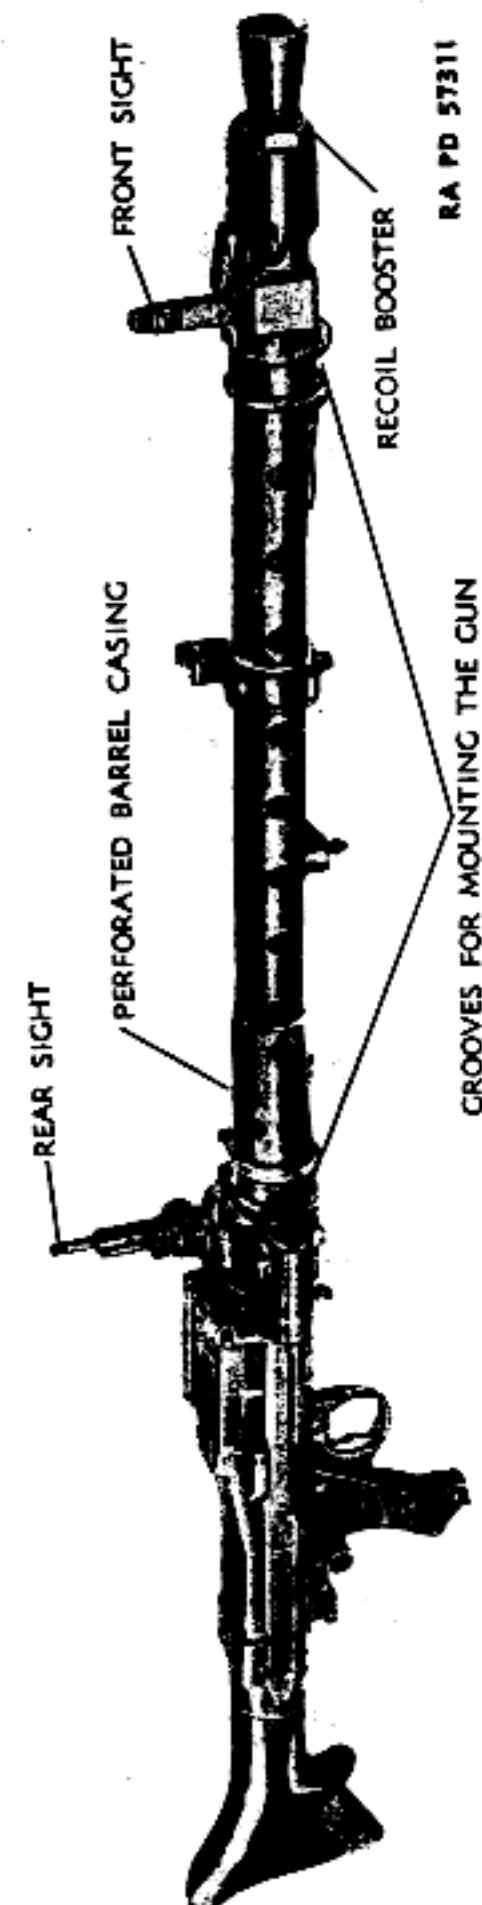
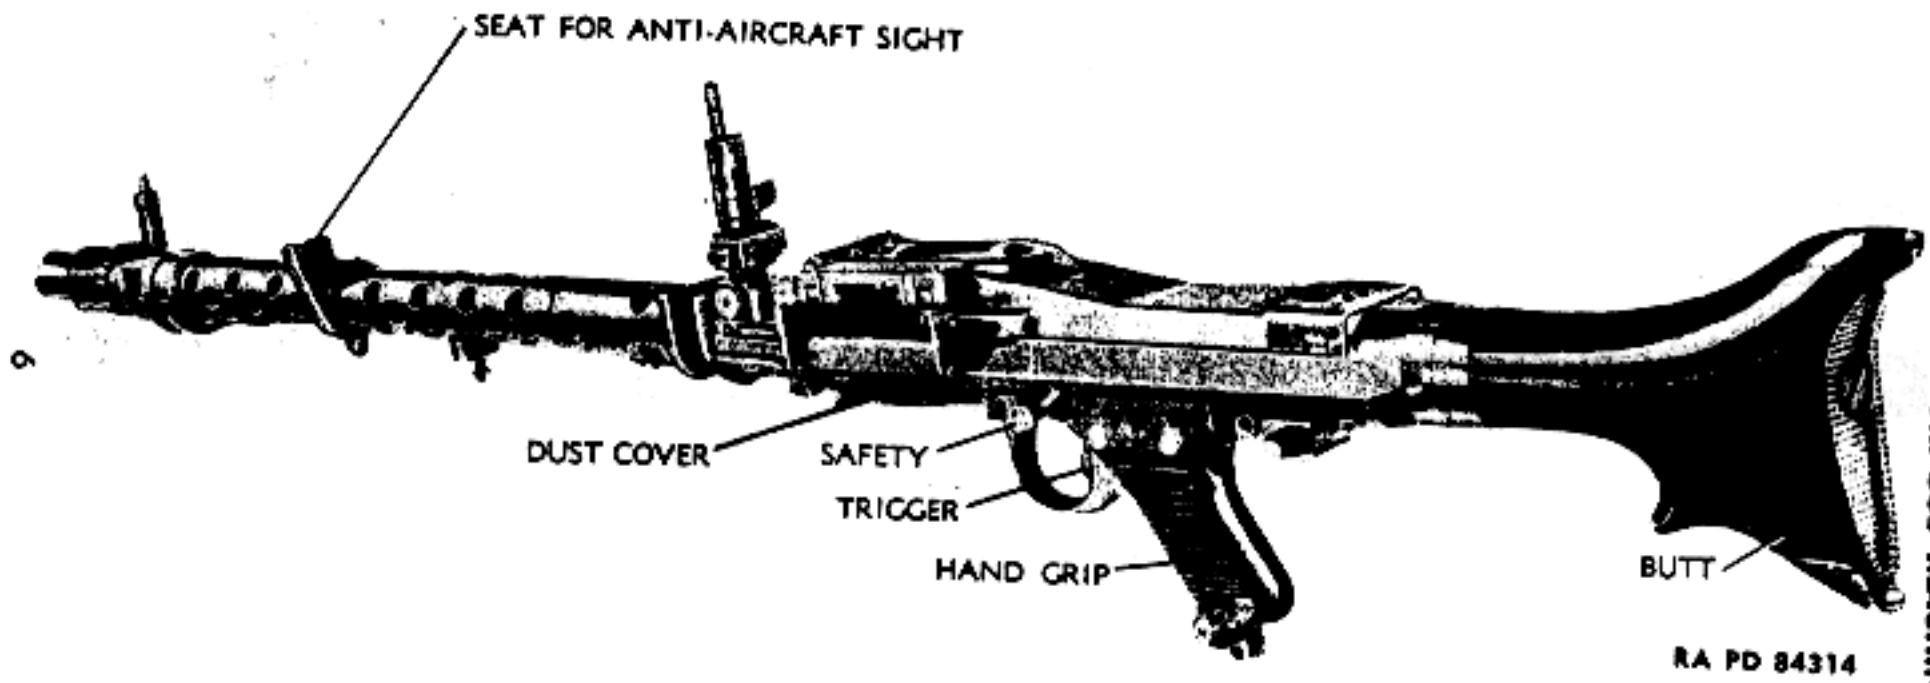
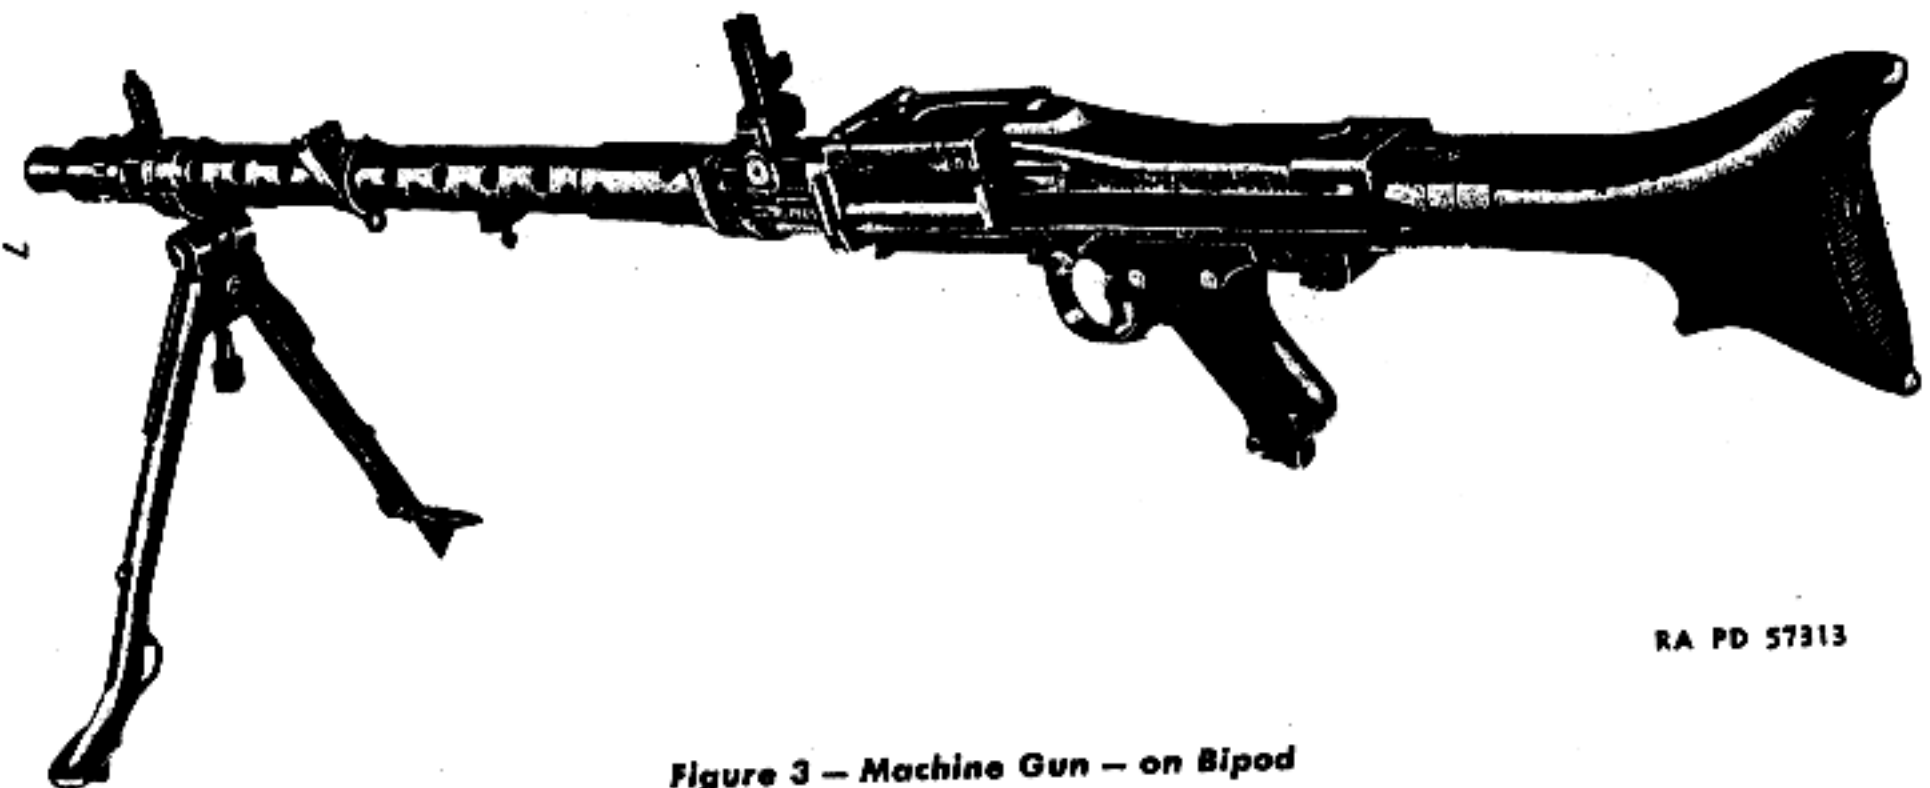
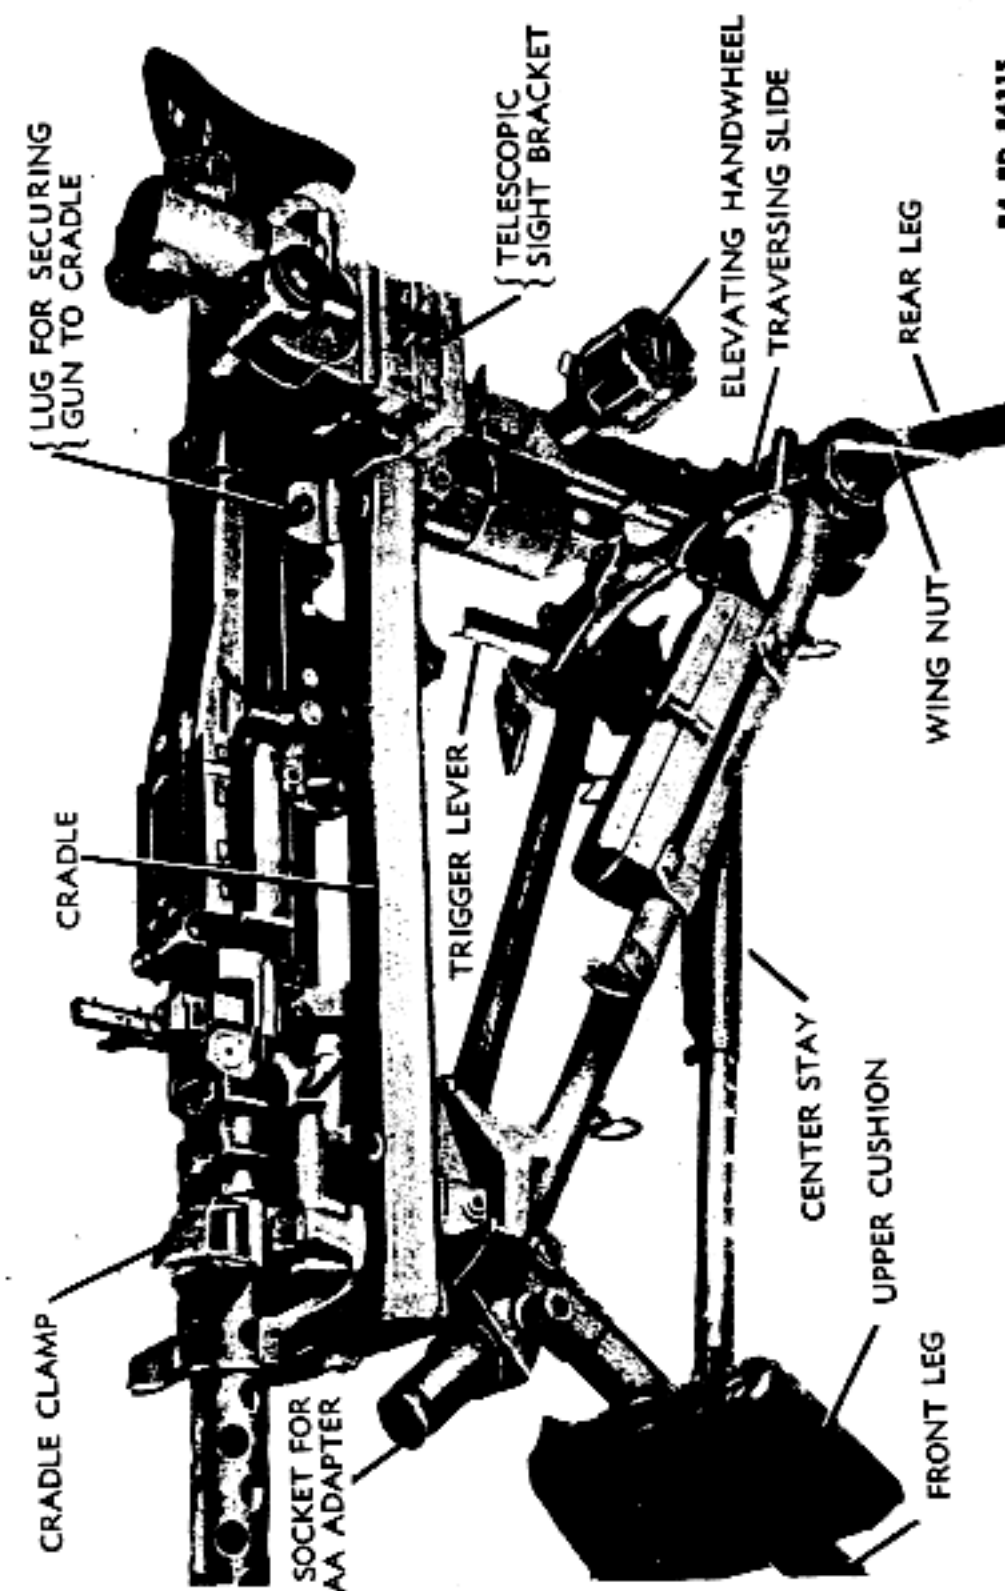

Figure 1 — German 7.9-mm Dual Purpose Machine Gun MG34 — Right Side View
Figure 2 — German 7.9-mm Dual Purpose Machine Gun MG34 — Left Side View
Figure 3 — Machine Gun — on Bipod
Figure 5 — Machine Gun — on Tripod Mount
a. The German 7.9-mm Dual Purpose Machine Gun MG34 is a recoil-operated, air-cooled weapon capable of delivering single or full automatic fire. The gun is normally fed from 50-round flexible, metal belts, two or more of which can be joined end to end. However, in operations where rapid movement is required, or for antiaircraft fire, a 50-round belt drum magazine or a 75-round spring-operated drum magazine is used. The gun can be identified easily by the recoil booster (fig. 1), perforated barrel casing (fig. 1), grooves for mounting the weapon (fig. 1), front and rear sights (fig. 1), seat for the anti-aircraft sight (fig. 2), hand grip with trigger and safety, dust cover (fig. 2), and fin-shaped butt (fig. 2). It can be used on a bipod (fig. 3), on an antiaircraft tripod (fig. 4), or on a tripod mount (fig. 5).
d. The mechanism of the gun is very sensitive to dust or sand. When the gun is not in action, keep the dust cover (fig. 2) on the ejection opening closed.
d. On Antiaircraft Adapter of Tripod Mount. For antiaircraft fire from the tripod mount, an adapter is secured in the short tube near the swivel (fig. 5). The adapter is similar to the adjustable support at the top of the tripod. The gun is mounted on the adapter as on the tripod. The cradle must be folded when the adapter is used and the adapter should be in a vertical position.